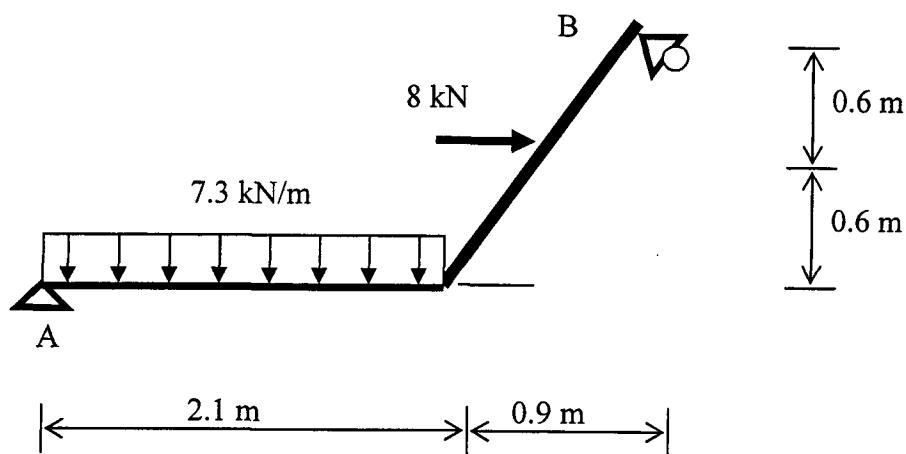

Figure 3.0/Rajah 3.0
3. (a) Determine the reaction force at A and B on the beam shown in Figure 3.0 below.